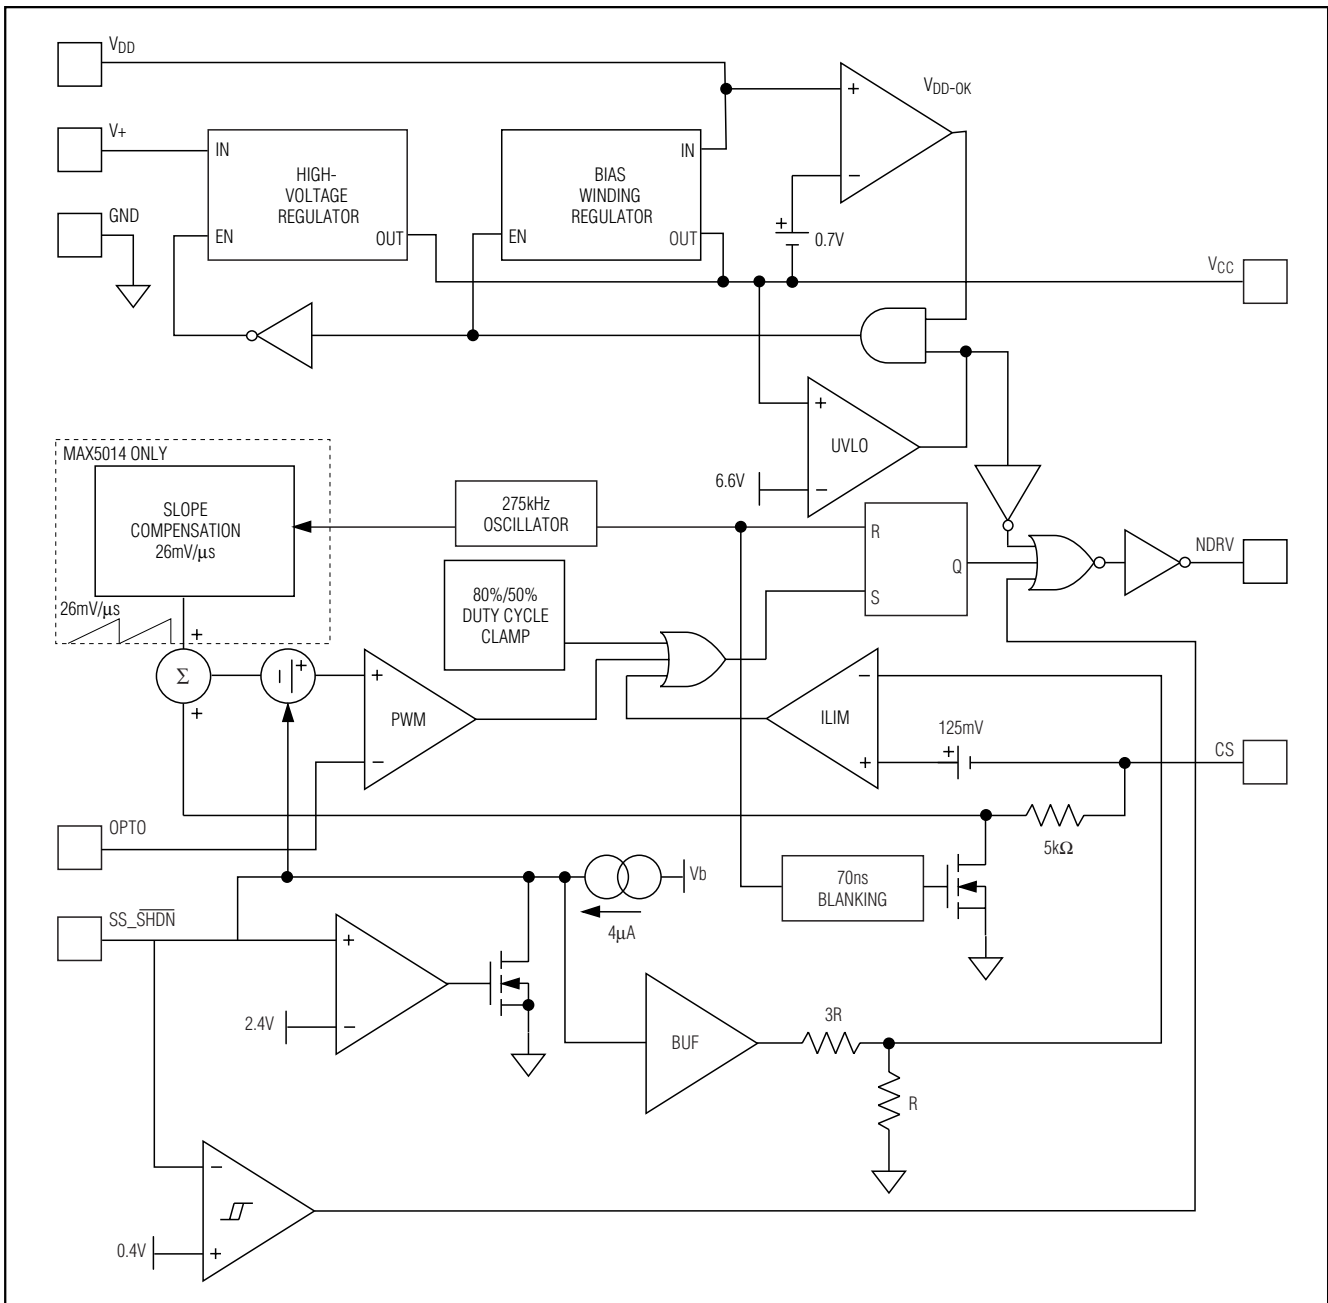
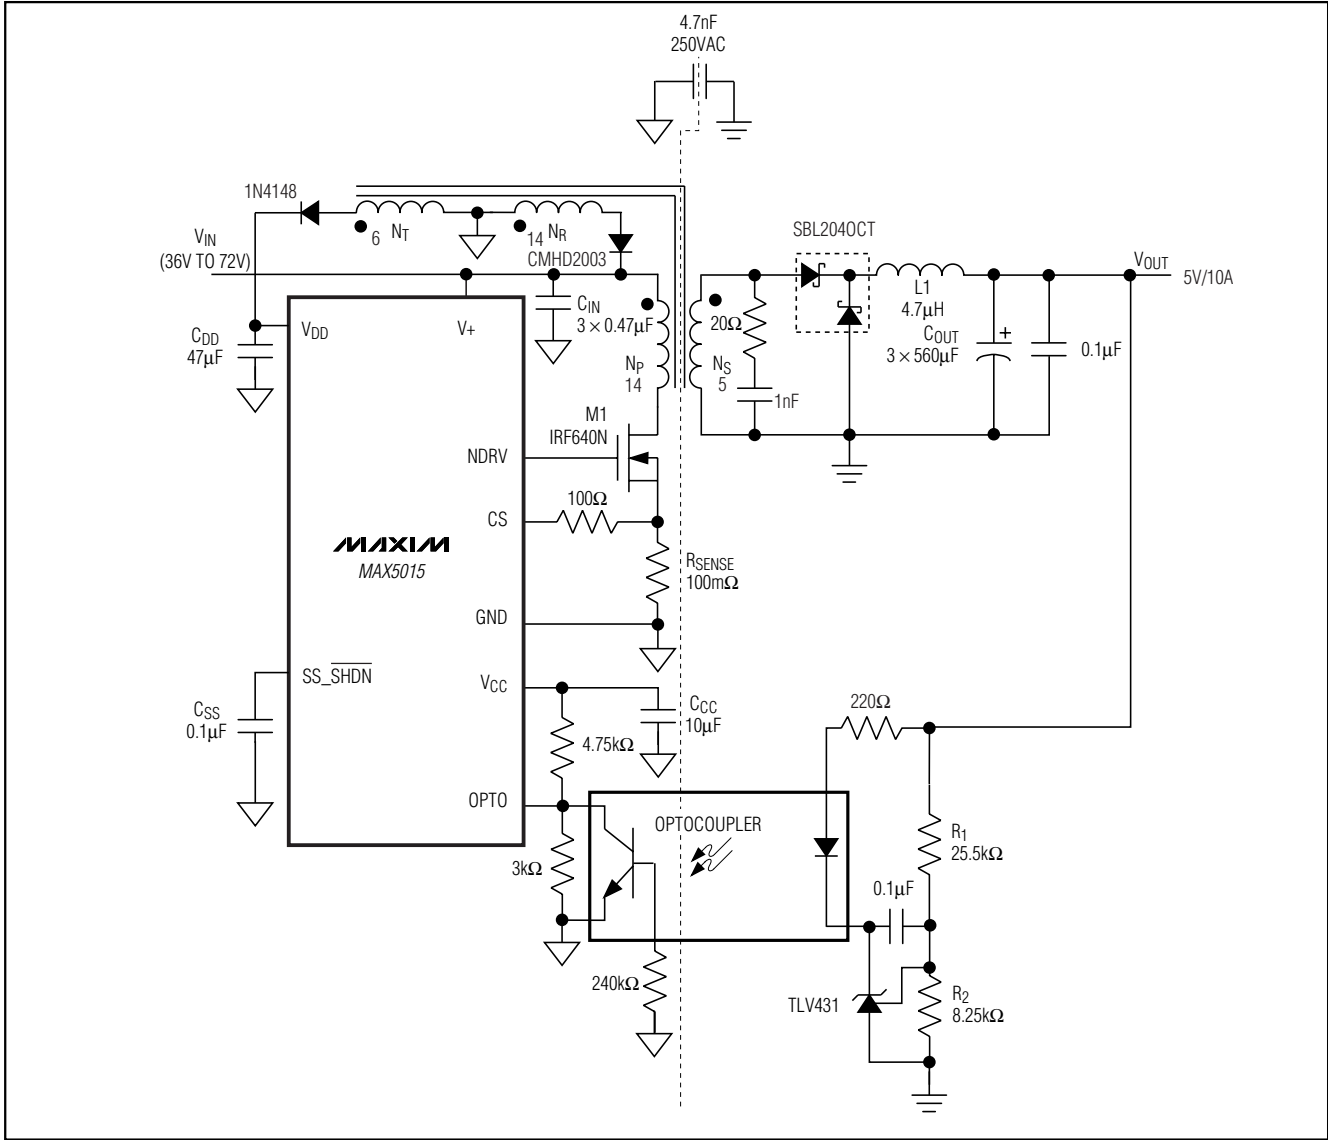
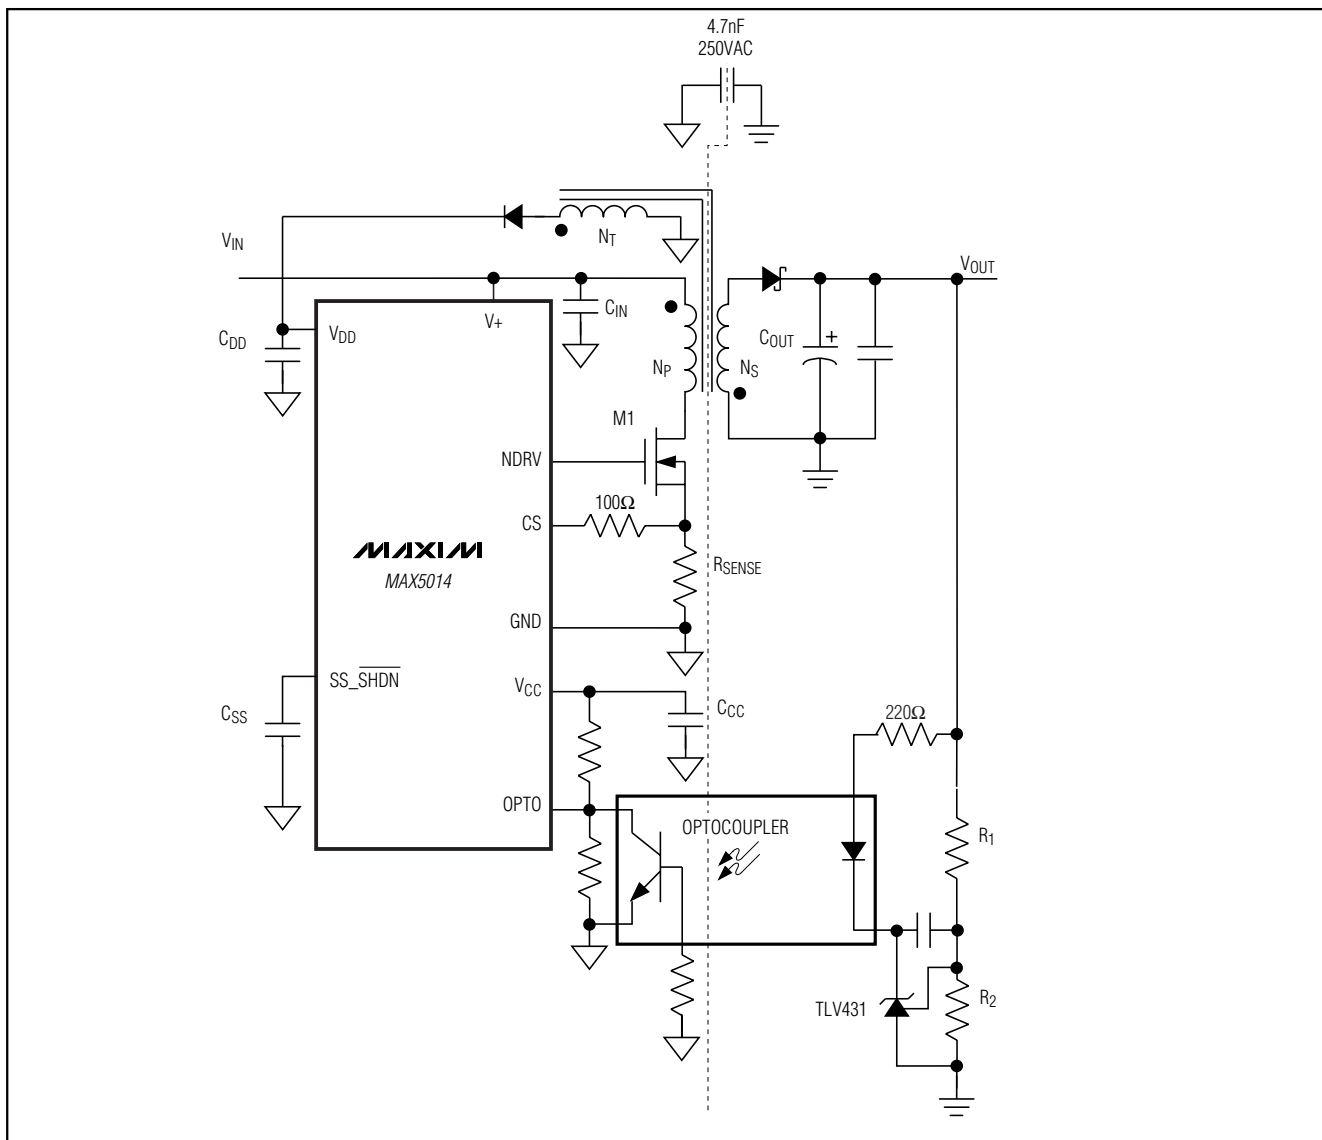

Figure 1. Functional Diagram
Figure 2. Forward Converter
Figure 3. Flyback Converter
Use the MAX5014/MAX5015 PWM current-mode controllers to design flyback- or forward-mode power supplies. Current-mode operation simplifies control-loop design while enhancing loop stability. An internal high-voltage startup regulator allows the device to connect directly to the input supply without an external startup resistor. Current from the internal regulator starts the controller. Once the tertiary winding voltage is established the internal regulator is switched off and bias current for running the IC is derived from the tertiary winding. The internal oscillator is set to 275kHz and trimmed to $\pm 10\%$. This permits the use of small magnetic components to minimize board space. Both the MAX5014 and MAX5015 can be used in power supplies providing multiple output voltages. A functional diagram of the IC is shown in Figure 1. Typical applications circuits for forward and flyback topologies are shown in Figure 2 and Figure 3, respectively.
Isolated voltage feedback is achieved by using an optocoupler and a shunt regulator as shown in Figure 2. The output voltage set point accuracy is a function of the accuracy of the shunt regulator and feedback resistor-divider tolerance.
where C_{SS} is the soft-start capacitor as shown in Figure 2.
The current-sense (CS) comparator and its associated logic limit the peak current through the MOSFET. Current is sensed at CS as a voltage across a sense resistor between the source of the MOSFET and GND. To reduce switching noise, connect CS to the external MOSFET source through a 100Ω resistor or an RC low-pass filter (Figures 2, 3). Select the current-sense resistor, R_{SENSE} according to the following equation:
The following is a general procedure for designing a forward converter (Figure 2) using the MAX5015.
The circuit in Figure 2 was designed as follows:
where V_{REF} is the reference voltage of the shunt regulator, and R_1 and R_2 are the resistors shown in Figures 2 and 3.